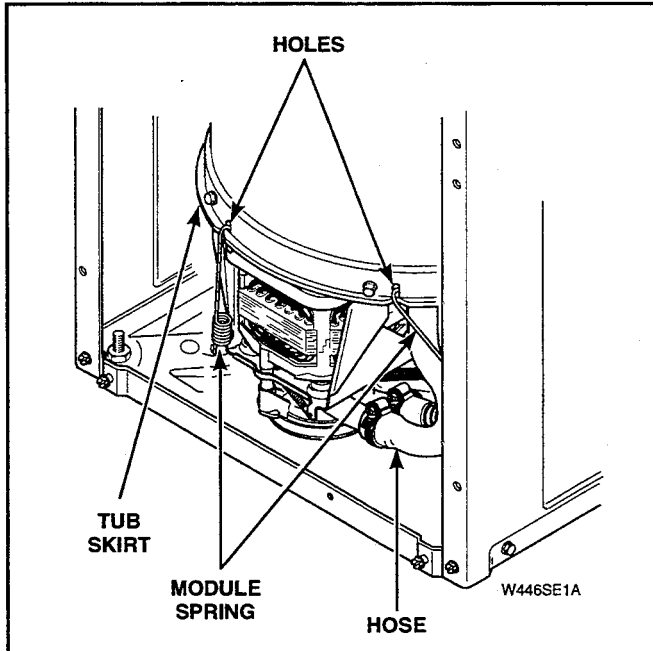

Figure 5-32
- q. Using No. 289P4 Spring Hook Tool, unhook six module springs from lower edge of outer tub. See Figure 5-32.
- h. Using No. 289P4 Spring Hook Tool, unhook six module springs from lower edge of outer tub. See Figure 5-32.
- Using No. 289P4 Spring Hook Tool, unhook six module springs from lower edge of outer tub. See Figure 5-32.